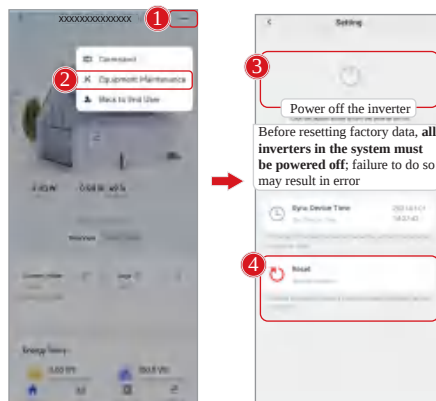

Figure 4-2
4. Reset factory data of every inverter (as shown in Figure 4-2).